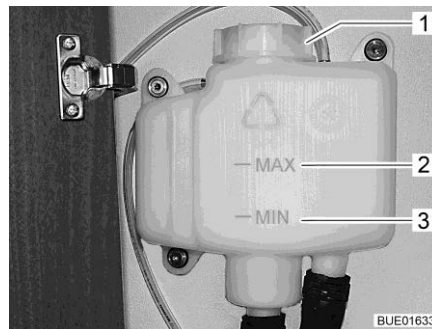

Fig. 214 Compensator reservoir without panel
- Check if the fluid level is between the marks "MIN" (Fig. 214,3) and "MAX" (Fig. 214,2) on the compensator reservoir (Fig. 214).
- Open the rotary lid (Fig. 214,1) on the compensator reservoir.